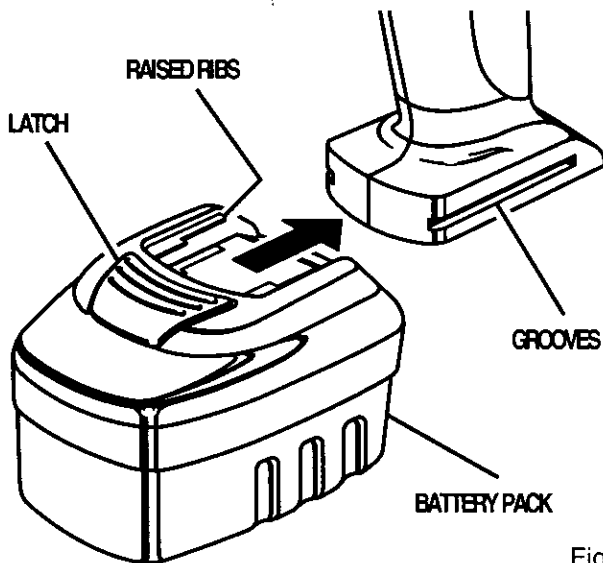

Fig. 5
See Figure 5.
- Align raised ribs on battery pack with grooves on bottom of drill, then attach battery pack to drill as shown in Figure 5.